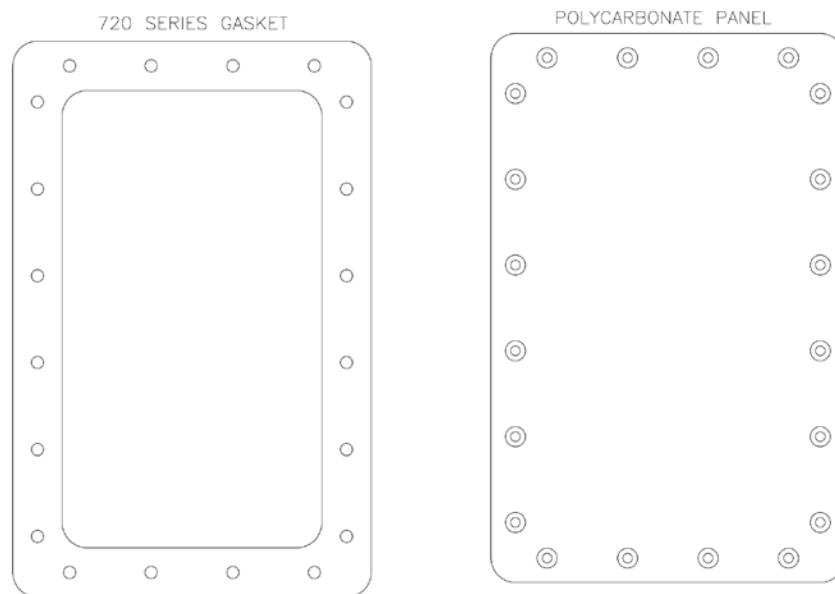

Figure 2 - Gasket and Polycarbonate Access Panel
- 3) Apply GORE™ SKYFLEX™ Aerospace Gaskets on Polycarbonate Panel 1 shown in Figure 2 – Carefully Align fastener holes in gasket with those on panel.